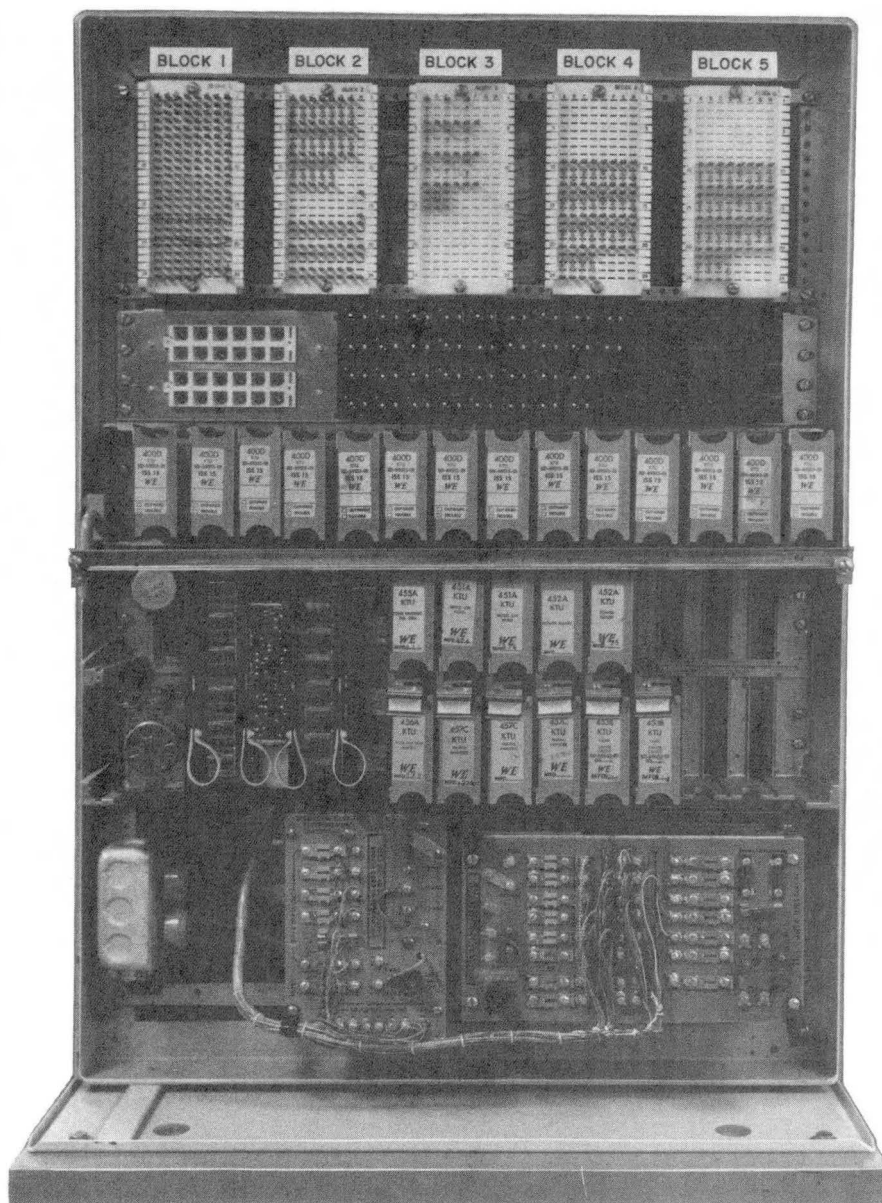

Fig. 1—580-Type KSU (Cover Removed)
**2.07** The 580A (MD) KSU (Fig. 1 and 2) is a 120A apparatus box with a removable front and rear cover and is designed for floor mounting only (Fig. 1 and 2). It contains the following components: